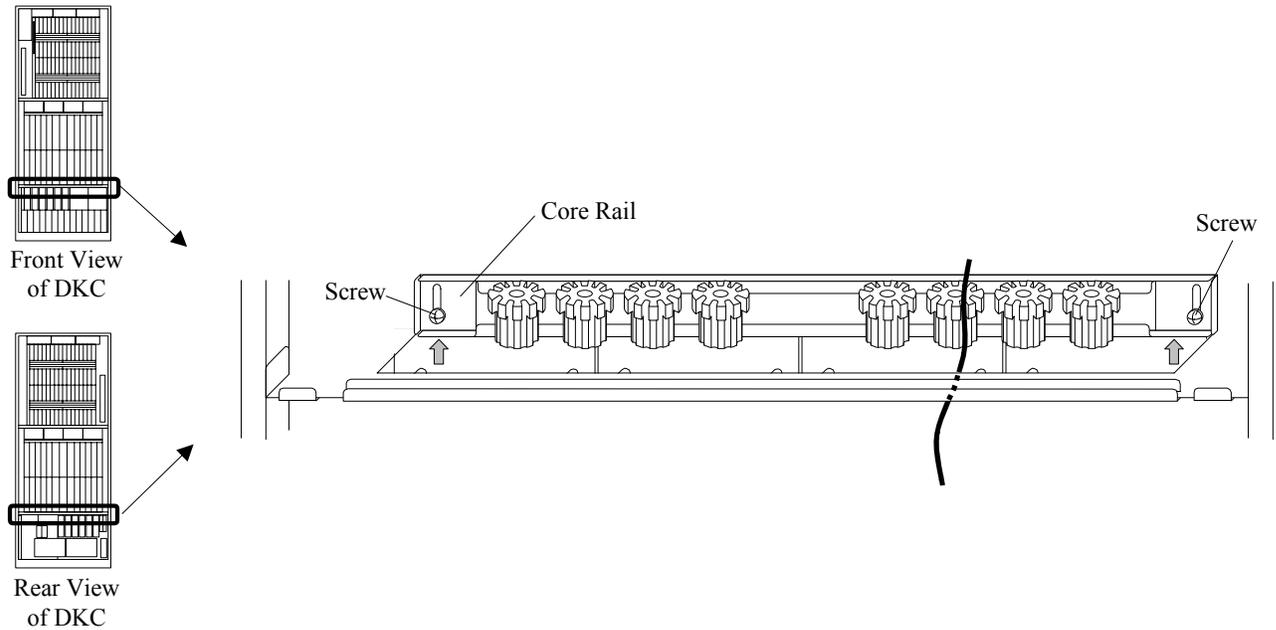

Fig. T11-1 Removal of Core Rail
- f. Loosen the screws and lower the core rails. Fasten the screws. (Refer to Fig. T11-1.)